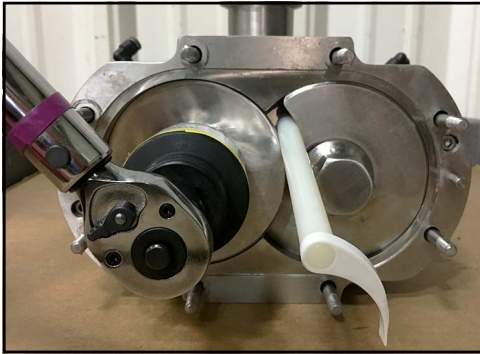

Figure 126 - Insert dowel
6. After the right-hand screw nut is torqued down, switch the wrench to the left-hand screw nut and turn clockwise. This will release the assembly tool as shown in Figure 126.